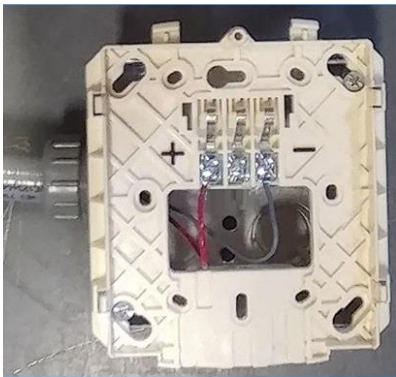

Figure 13.9
11. See **Figure 13.9**. Connect wires at additional Signal Horns. **IMPORTANT! Do not branch Signal Horn circuit. Run circuit from the first Signal Horn to the second Signal Horn, then the second Signal Horn to the third, and so on.**